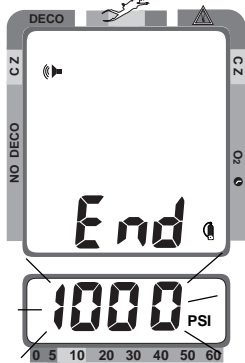

Fig. 21 - Set End Pressure Alarm Set Point
- Gas Time and Audible icons appear with Pressure value flashing (Fig. 21)